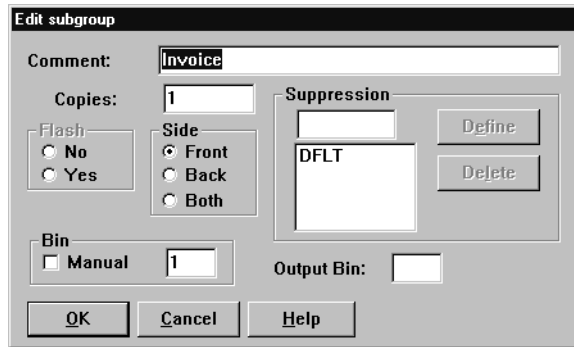

Figure 24. Subgroup specifying front side only
3. You should have four subgroups now. Right click on the Invoice subgroup. For the **Side** option select the **Front** radio button. The window should look like Figure 24 on page 31. Click on **OK**.